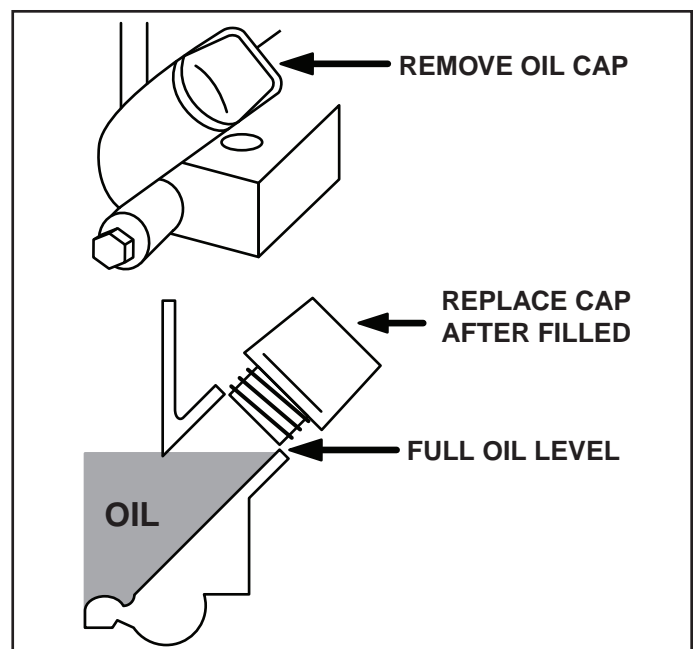

FIGURE 31
- Check **oil level** before each use. Maintain engine oil at level shown in figure 31 below.